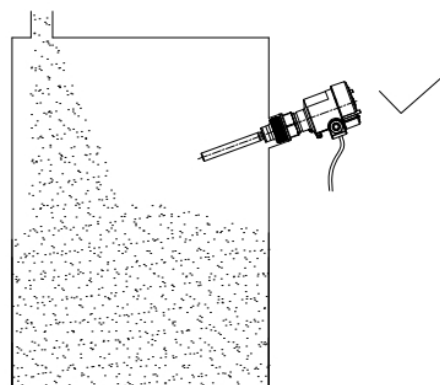
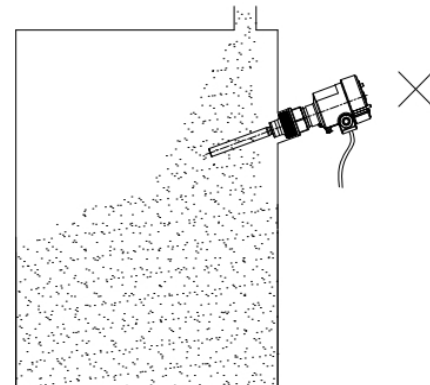

Fig.3
Fig.4
- Please avoid installing the instrument near the inlet point so that the vibrating tube does not protrude directly into the filling stream. Fig.3 and Fig.4 give a correct/wrong example respectively. It will prevent the instrument from filling impact damage or generating false signals.